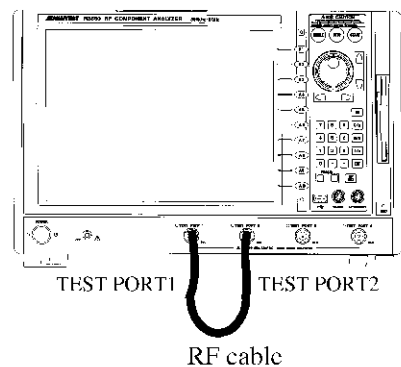

Figure 15-9 Connections for Attenuation Accuracy Measurements
1. Connect the RF cable and conversion connector (for OPT 12 or 13, only the RF cable is used) from TEST PORT 1 to TEST PORT 2 as shown in Figure 15-9.